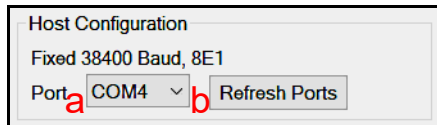

Figure 8 DSA Main Screen Host Configuration Group
When the DSA Application is launched, a connected Docking Station will be detected. The DSA Application automatically defaults to the active COM Port where the Docking Station is connected, and the proper COM Port is loaded and displayed in the Port field (Figure 8 a). If the COM Port is not detected, the correct COM Port can be selected manually. This can be done from the Host Configuration Group shown below, which also provides information on Baud Rate settings.
- Port: The Port: field (Figure 8 a) features a drop-down menu allowing the user to select the COM Port to be used for communication.
- Refresh Ports: Clicking the Refresh Ports button displays the list of available COM Ports. The COM Port where the Docking Station is connected can be selected. When working with the Docking Station Administrator, the Baud Rate for communication between the PC and the Docking Station (Figure 8 b) is automatically set to 38400 Baud.